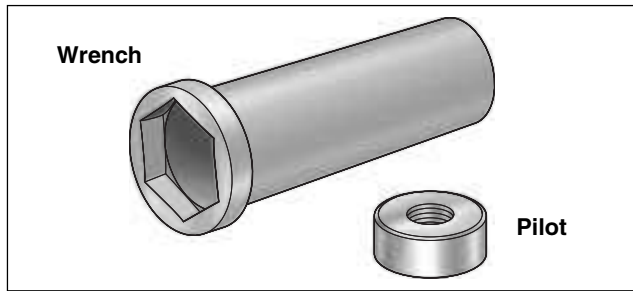

Figure 7-44. Mainshaft Locknut Wrench/Pilot (Part No. HD-94660-37B)
8. Obtain MAINSHAFT LOCKNUT WRENCH/PILOT (HD-94660-37B). See Figure 7-44. Proceed as follows: